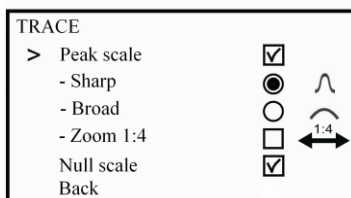

Fig. 12 Menu „Indication"/ „Track"
- the "sensor" option is used to expand the scale 1:4 and to select signal level at the of the SENSOR jack input in dB or Volts (see Fig.12);
The optimum gain and scale for a specific signal intensity may be obtained by pressing the  button. The option of the peak scale extension may be selected by scrolling the MENU options as follows: « Menu > Indication > Trace > Peak type > Zoom 1:4 (Fig.12)